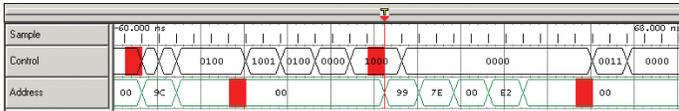
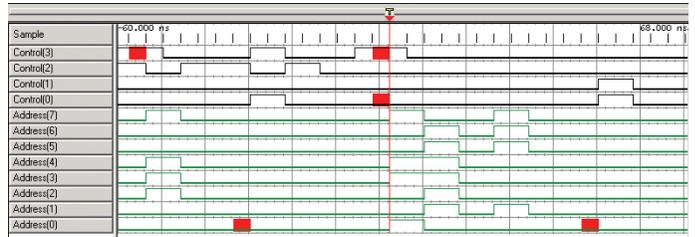

Figure 9. Sample ticks. Control bus and Address bus showing red glitch flags.
Figure 10. 4-bit Control bus and 8-bit Address bus expanded showing red glitch flags on individual signals.
The logic analyzer’s bus timing waveform can examine all the signal lines of the bus at once. If the logic analyzer detects a glitch on any of the lines, it will flag the bus and the time location. In Figure 9, the top waveform is Sample, which shows the sample ticks that represent the logic analyzer’s deep timing sampling rate of up to 2 GHz (500 ps). The next two lines are the bus waveforms – the 4-bit Control bus and the 8-bit Address bus. The red glitch flags that appear on both bus waveforms signify that there was more than one transition between the sample points at those locations.
The next step is to focus on where the problems are. The logic analyzer’s timing signal waveform can display the individual lines of the bus and flag where glitches occur. In Figure 10, the logic analyzer has expanded the Control bus into its four individual signals and the Address bus into its eight individual signals. The red glitch flags from the bus waveform in Figure 9 are now shown as glitch flags on signal lines Control (3) and Control (0), and as two glitches on the Address (0) signal line.